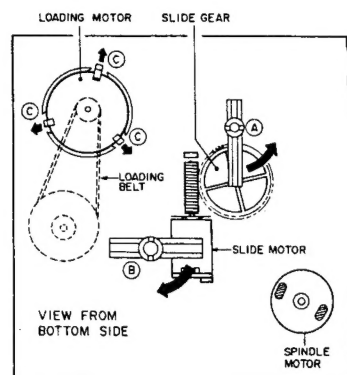

Fig. 3-4
- 1) Turn the ④ GEAR HOLDER LEVER counter-clockwise (Fig. 3-4), then pull out the SLIDE GEAR.
- 1) Remove the LOADING BELT, then remove the LOADING MOTOR while releasing the ⑤ hooks (Fig. 3-4).
- 1) Turn the ⑥ SLIDE MOTOR HOLD LEVER (Fig. 3-4) clockwise, then pull out the SLIDE MOTOR.